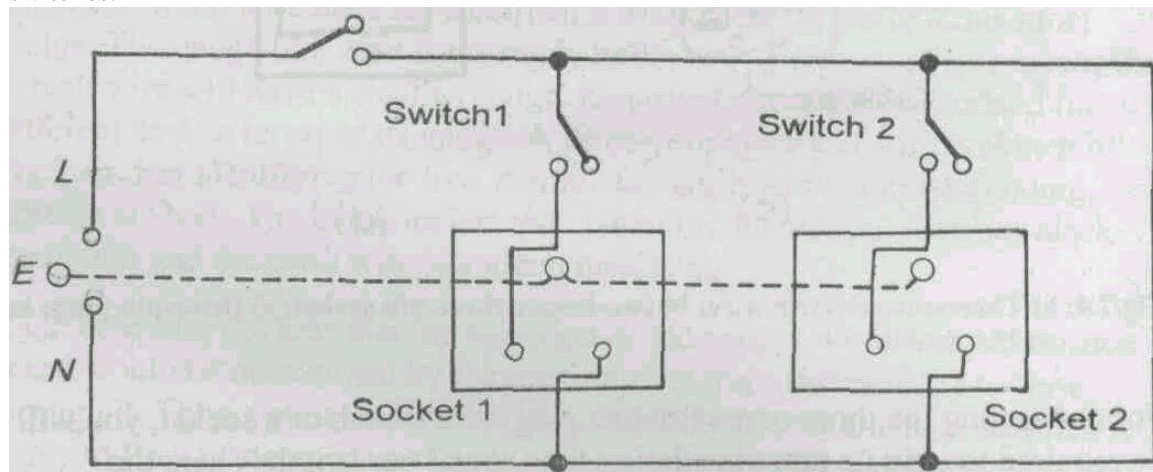
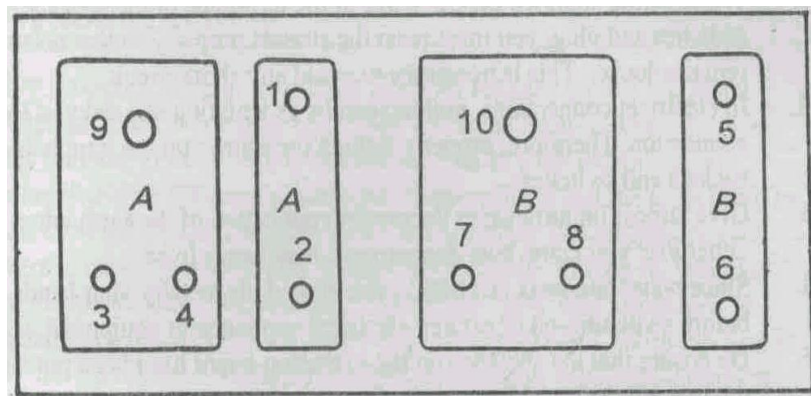

Fig.7.5 Circuit diagram of an extension board
Fig.7.7 Labelled circuit diagram of the extension board
Now suppose we wish to fabricate an extension board for plugging two instruments such as an oscilloscope and a signal generator. For such an extension board, the circuit diagram is shown in Fig.7.5. You will note that such an extension board has 2 two-in-one sockets with independent switches.
2. Keep the labelled circuit diagram (Fig.7.7) of the extension board before you. This diagram is the labelled version of the circuit diagram of the extension board (Fig.7.5).
Note that all the terminals of sockets and switches in Fig.7.7 are numbered. You just have to join these numbered terminals as per the instructions given below using the single core wire of gauge 22. You will have to cut this wire into pieces of appropriate length: